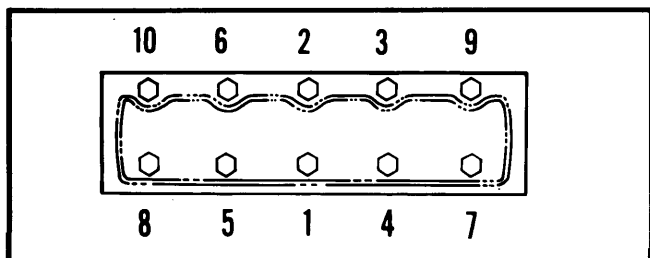

Fig. 3 Cylinder Head Tightening Sequence
2) Coat heads and threads of cylinder head bolts with sealing compound. Install all cylinder head bolts and finger tighten only. Gradually tighten bolts following the sequence in Fig. 3. Reverse removal procedure to complete installation.